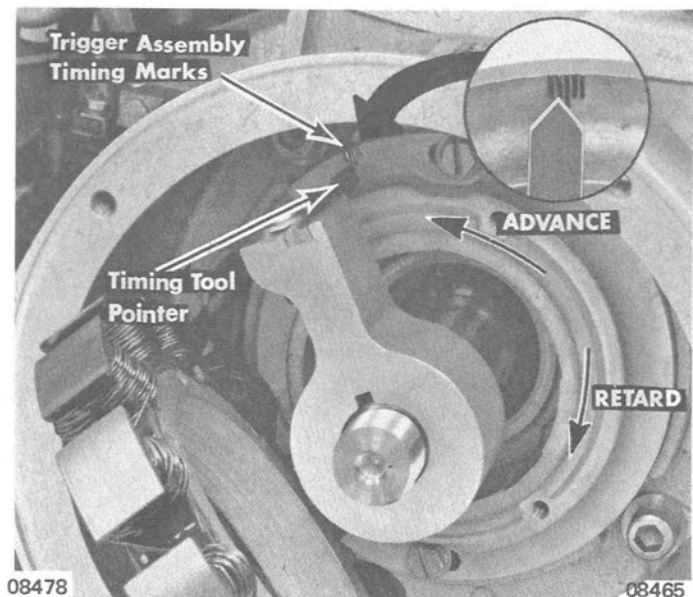

Figure 5. Timing Adjustment
12. Without moving crankshaft from position outlined in Paragraph 11, preceding, adjust trigger assembly until pointer on timing tool is aligned with **SECOND** timing mark (from left) on trigger assembly. (Figure 5)